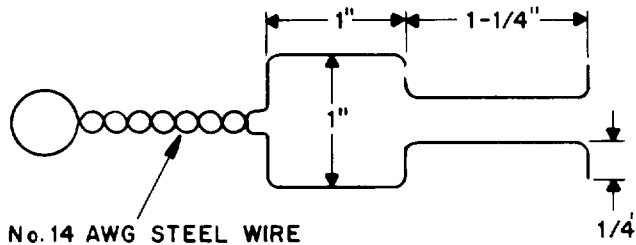

Figure 5-1. Pickoff Coil Assembly Aid
b. SPECIAL TOOLS AND TEST EQUIPMENT REQUIRED. - No special tools are required to accomplish the procedures described in this technical manual. The assembly aid for assembling the pickoff coils on delay lines 3DL2, 3DL3, 4DL1, and 12DL1 can be fabricated locally from the information given in figure 5-1.